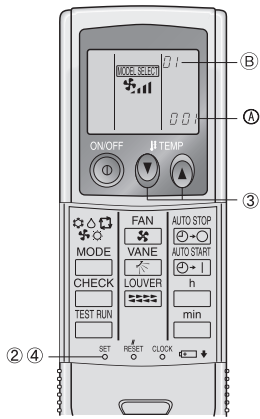

Fig. 6-8
- 2) Automatic fan speed setting (For IR wireless remote controller) (Fig. 6-8)